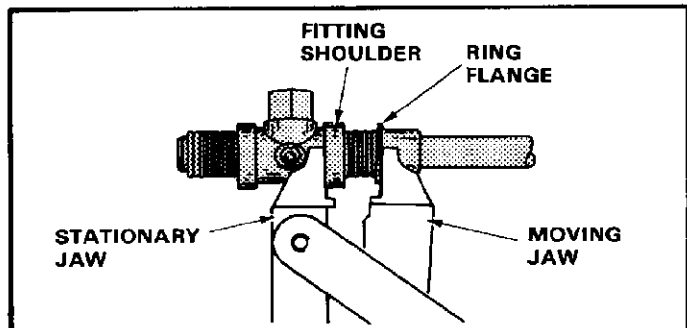

Fig. I-3
I-4. CRIMPING (Figures I-3 and I-4)
1. Open the handles of the hand tool and place the fitting between the crimping jaws of the tool with the stationary jaw in back of the fitting shoulder and the moving jaw in back of the ring flange. See Figure I-3.